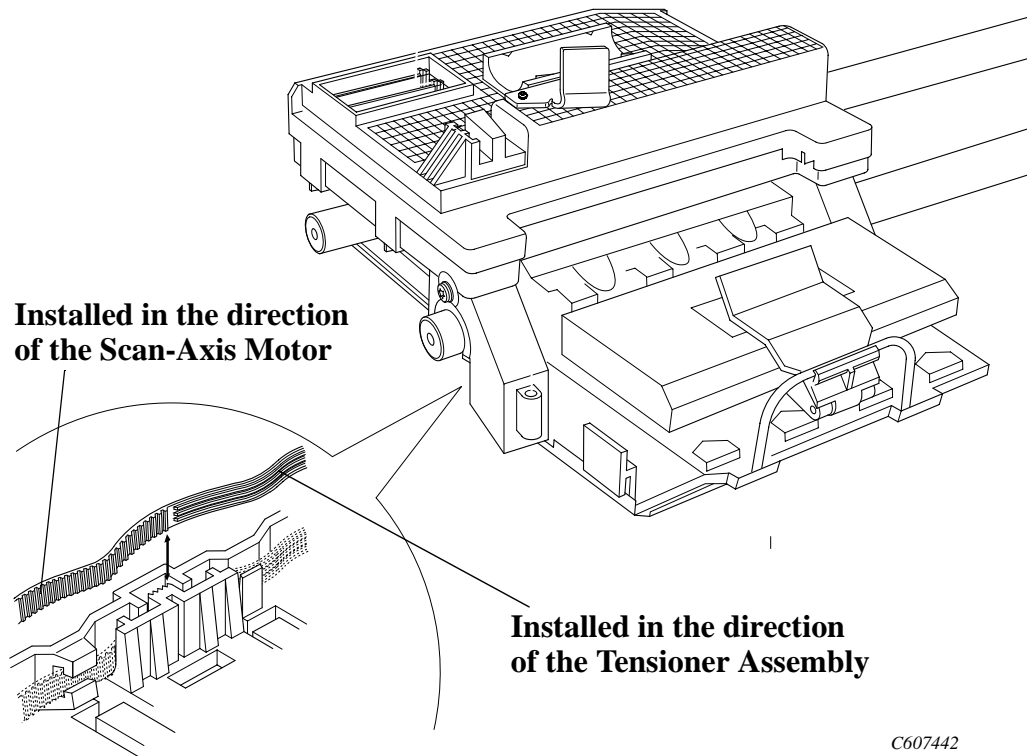

Figure 58: Belt Installation
Refer to Figure 48 to Figure 58.
3. When installing the belt, make sure it is not twisted and is installed in the correct orientation as shown in Figure 58.